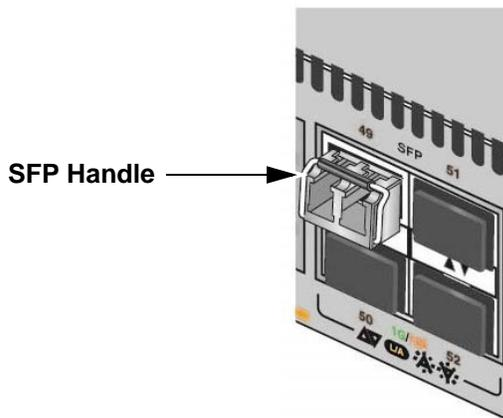

Figure 35. Positioning the SFP Handle in the Upright Position
7. Verify the position of the handle on the transceiver. If the transceiver is in a top port, the handle should be in the upright position, as shown in Figure 35. If the transceiver is in a bottom port, the handle should be in the down position.